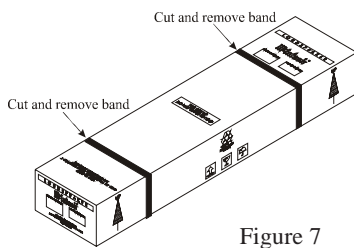

Figure 7
- Remove the banding material from the shipping carton. Refer to figure 7.